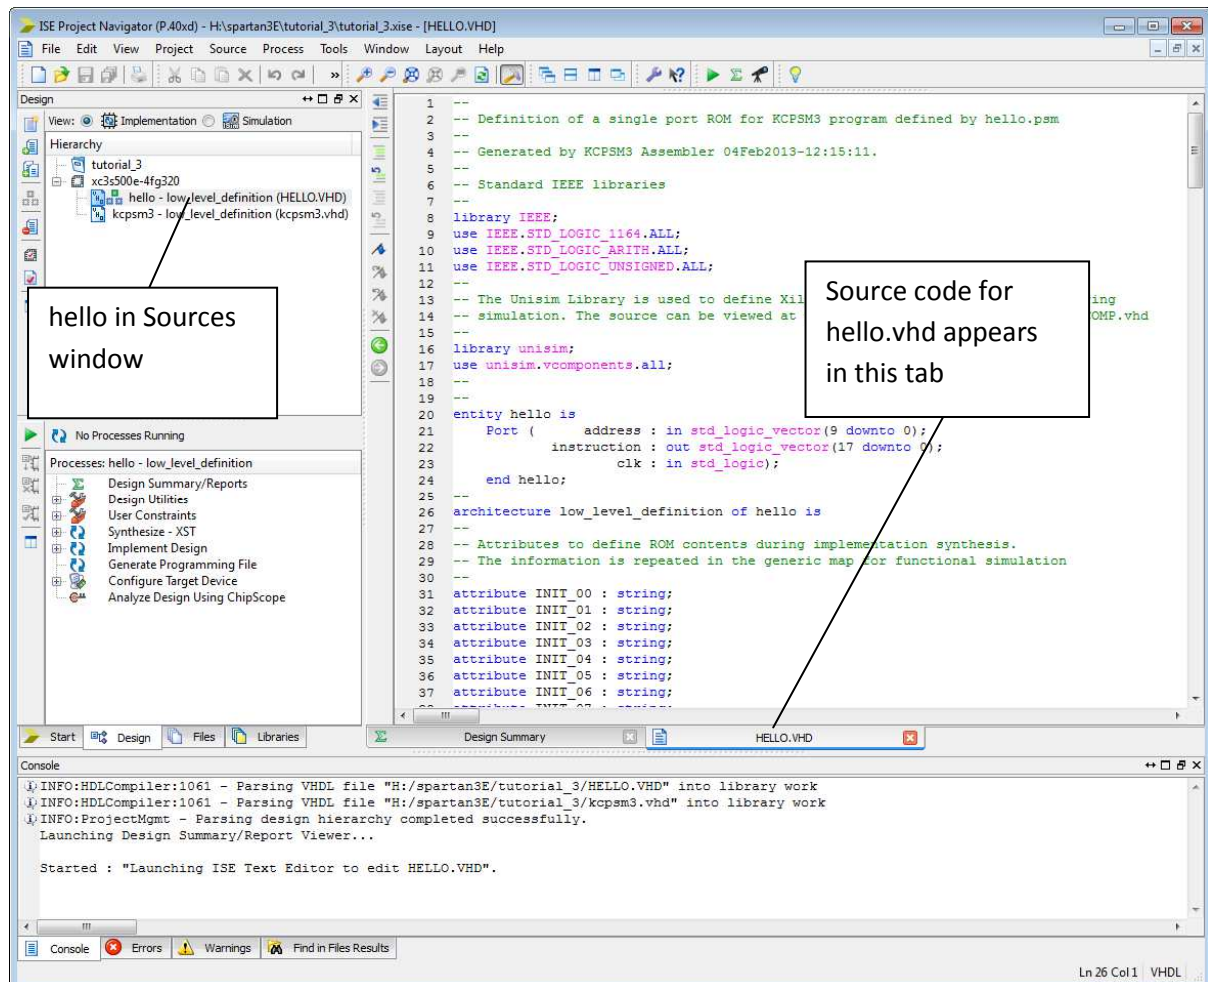

Figure 6.19: Source code for hello.vhd is displayed in a tab.
1. Double-click on **hello** in the Sources window. This will display the source code in a tab, as shown in Figure 6.19. It can be seen that Project Navigator colour codes the text of VHDL files, to make them easier to read. Comment lines, which start with “--” are displayed in green. Reserved words of the VHDL language are displayed in blue, while VHDL types are displayed in red. Everything else is left as black.